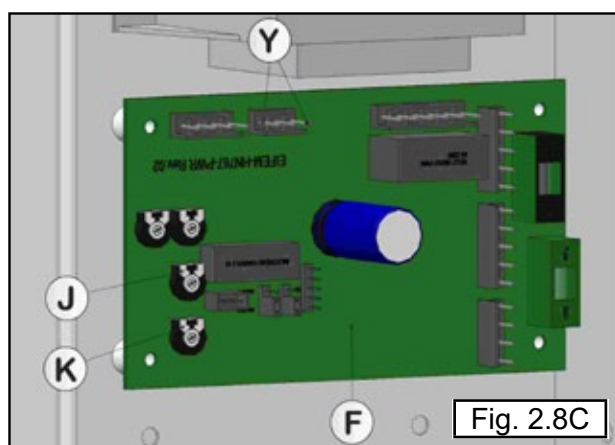

Fig. 2.8C
3-Adjust the speed of the electric fan (C), in the following ways (Fig. 2.8C):
A. Switch off the oven and connect the frequency meter to terminals (Y 1-3) on the connector (X5) of the control panel (F) and start the oven again.